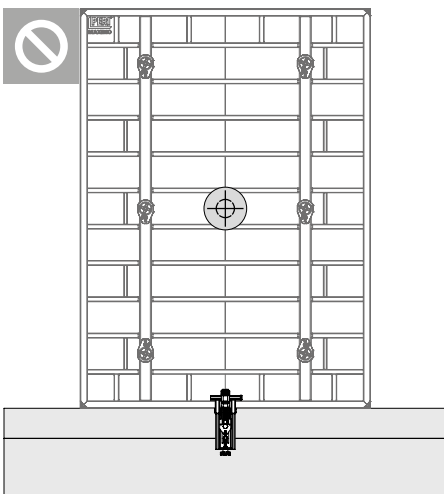

Fig. B1.06
- A formwork element must not cover an individual wall formwork console. (Fig. B1.06)